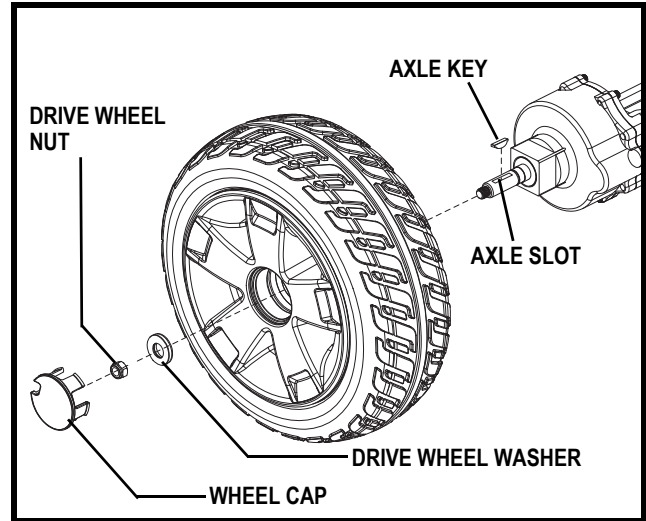

Figure 25. Solid Tire Wheel Removal
3. Remove the drive wheel nut and washer from the axle. See figure 25.
5. Slide the new wheel back onto the axle. Make sure that the axle key is in the axle slot. See figure 25.